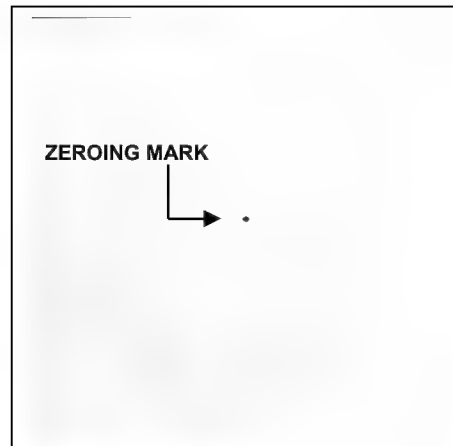

Figure G-1. Example of a zeroing mark.
(2) *Zeroing Mark*. The zeroing mark (Figure G-1) is nothing more than a small dot drawn on a piece of paper, tree bark, or the bore light reference point on the 10-meter offset.